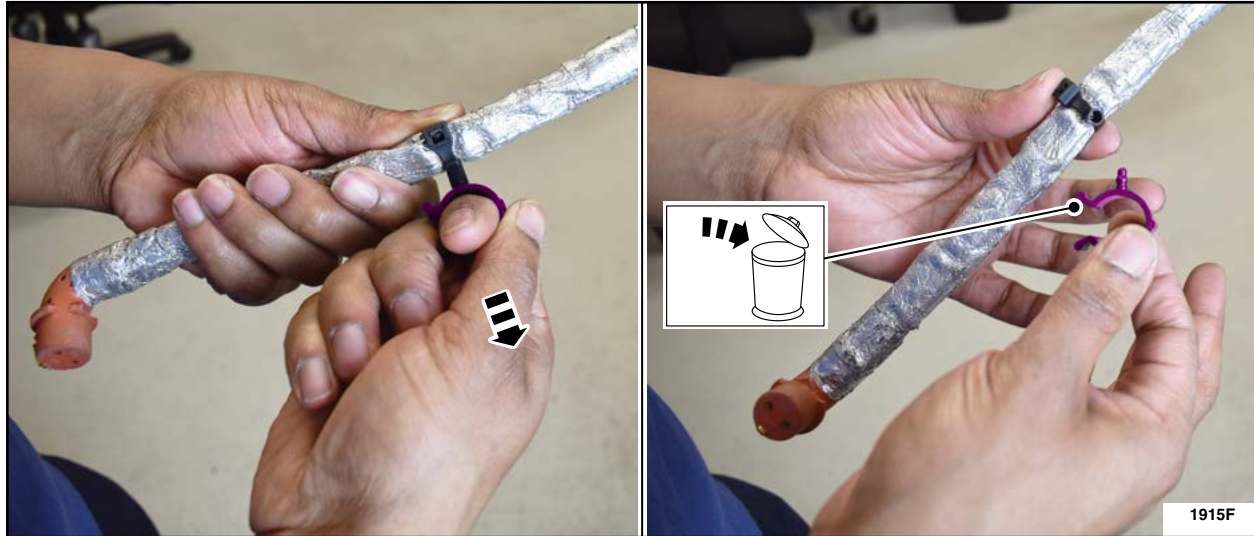

FIGURE 9
- Remove and discard the small C-clip end by separating it from the tie strap base as shown in Figure 9.